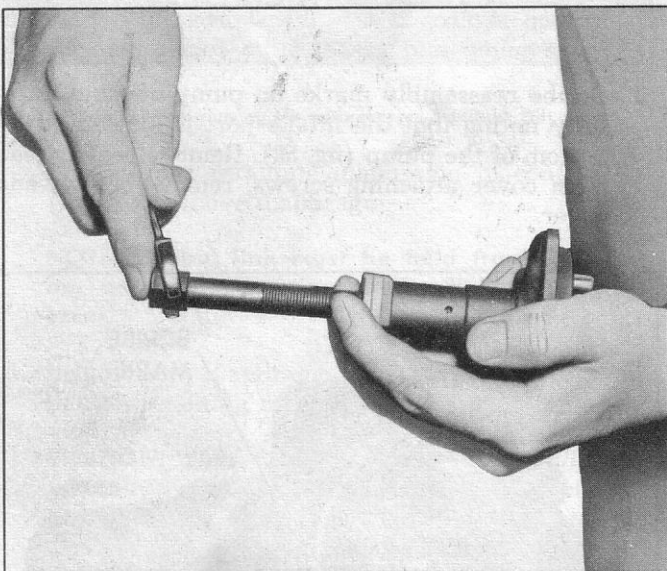

Fig. 54—Removing Drive Shaft Seal
5. Using a suitable puller or a $\frac{9}{16}$ " x 18 tap, remove drive shaft seal from pump housing (fig. 54).